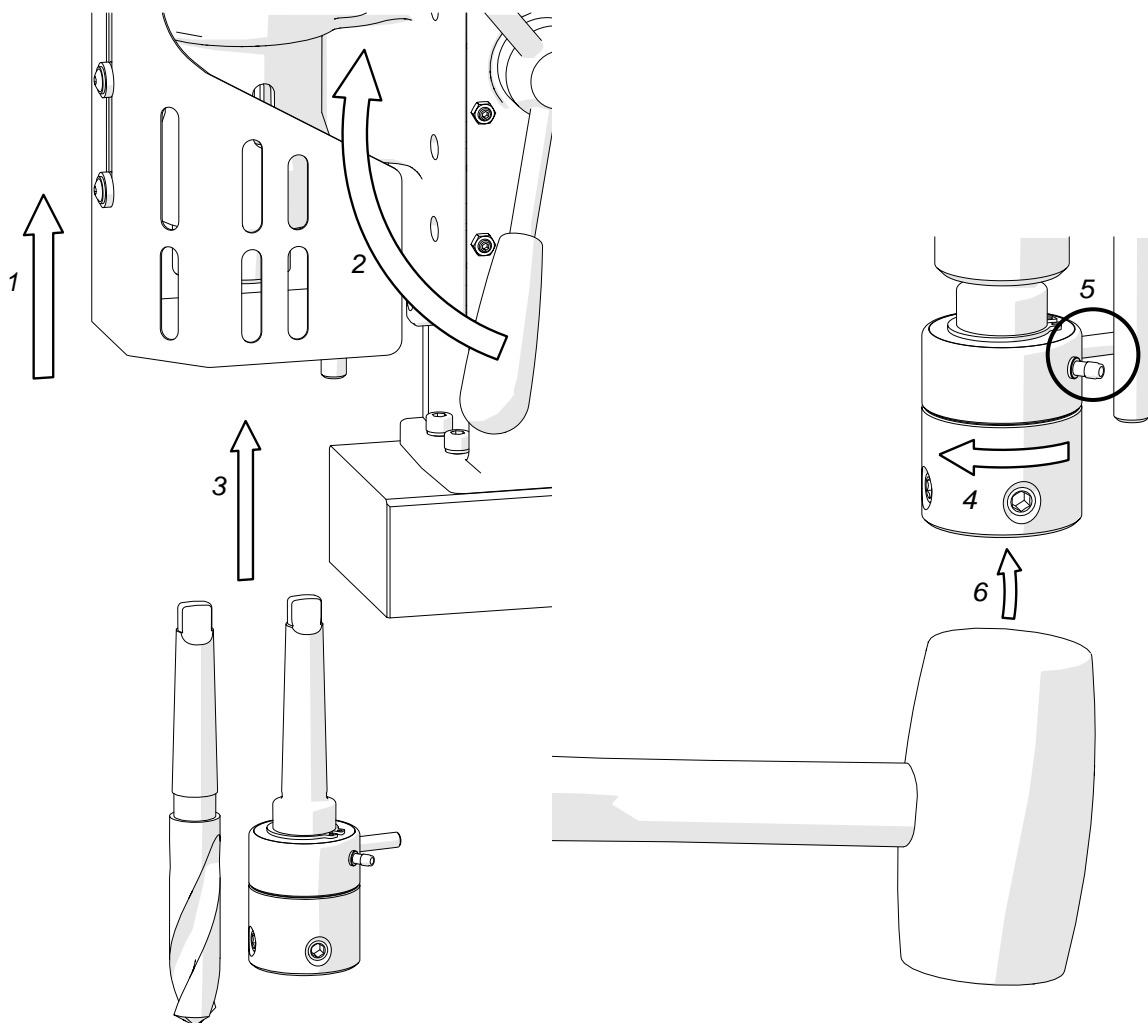

Fig. 2. Installing the arbor or drill bit
Unplug the machine from the power source, raise the chip guard as high as possible (1, Fig. 2), and then rotate the spoke handles to the right (2) to raise the motor. Use a clean and dry cloth to wipe the spindle and arbor (drill bit). Next, wear protective gloves and insert the arbor (drill bit) into the spindle (3), and then rotate the arbor (drill bit) to the right (4) until it slips into place. When installing the arbor, make sure that the vertical rod is located between the hose fitting and the horizontal rod (5). Finally, firmly tap the arbor (drill bit) into place using a mallet (6).